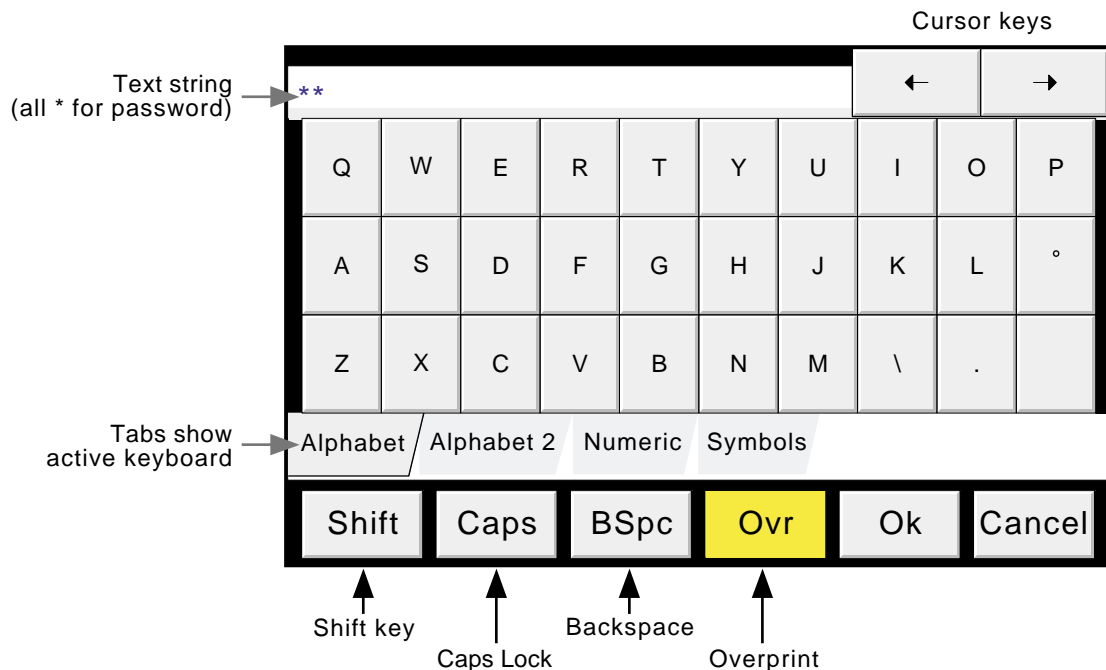

Figure 3.3.1b Alphabet 1 keyboard
- 3 Touching the blank Password area calls the keyboard display (see figure 3.3.1b).
The keyboard which appears when the password area is touched is the same as that which appears when any non-numeric text string entry is required (e.g. channel descriptor). Figures 3.3.1b and 3.3.1c below are an attempt, within the limitations of the illustrating process, to depict the available keyboards and thus the available character set. Actual entry of the text string is by touching the relevant key. For items which require only a numeric entry (e.g. channel range) the numeric keyboard appears.